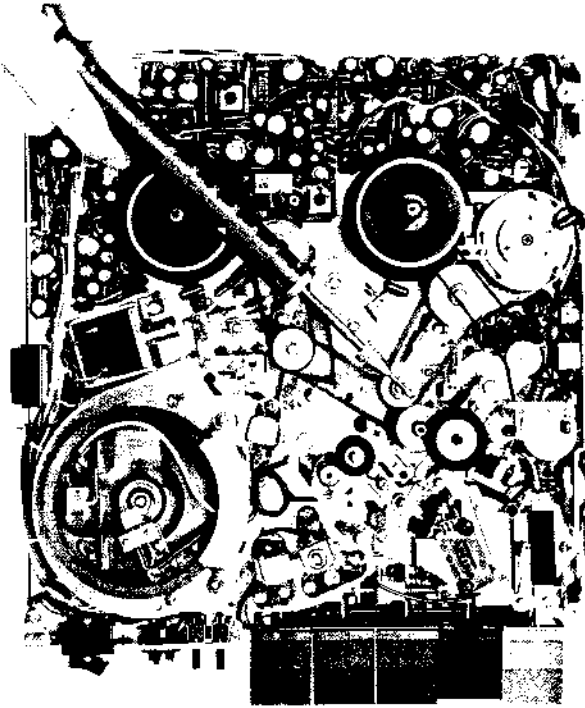

Fig. 1-5
- a) At stop mode, confirm that the space between Drive Idler and Capstan Pulley is about 1 mm. (Refer to Part (1), Item (f) above).
- c) As shown in Fig. 1-5, at playback mode, connect a 0 to 500g spring gauge to upper part of the drive idler shaft and measure the pressure when drive idler rotation stops.